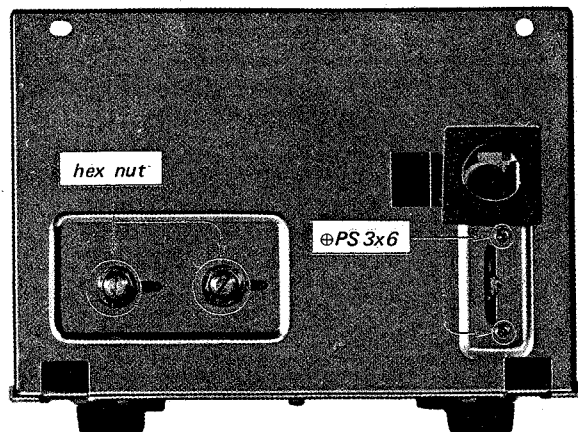

Fig. 2-5. Control and switch replacement
1. Remove the two screws ($\oplus PS 3 \times 6$) securing the defective switch to the front sub-chassis as shown in Fig. 2-5.
1. Remove the hex nuts that secure the controls to the front sub-chassis as shown in Fig. 2-5.